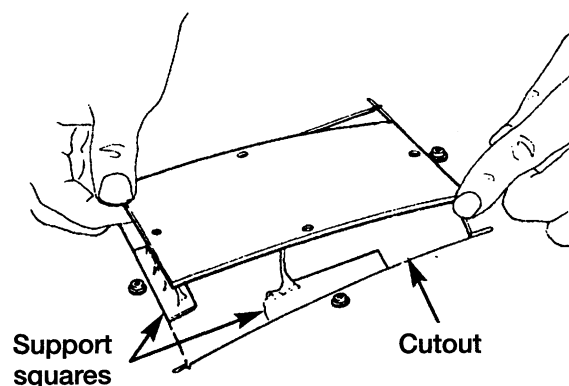

Fig. 5 Position Patch in Cutout and Align
12. Position patch in cutout against support squares and adjust patch until the gap is equal along all sides (Fig. 5).